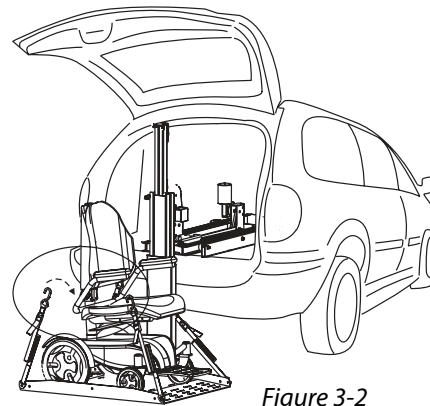
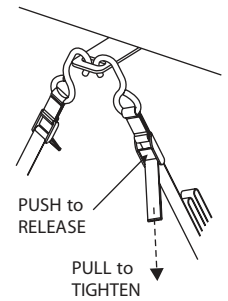

Figure 3-2
Figure 3-3
2. Secure the Chair. Each corner of the AL600 platform has a restraint attached, with a hook on the end. Place each hook in either the anchor plate slot or in each U-bolt. *[Figure 3-2]* Pull the loose end of each restraint tight. To release, simply press the release tab and remove the hooks. *[Figure 3-3]*